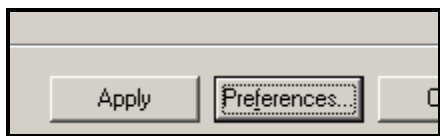

Figure 5-406: Select the *Preferences* button to reestablish the default settings.
- 🎵 If the newly created profile appears as a very small display when placed in the Proflong-MC10.dgn, return to the *Create Profile* dialog and select the **Preferences...** button located at the bottom of the dialog (Figure 5-406).